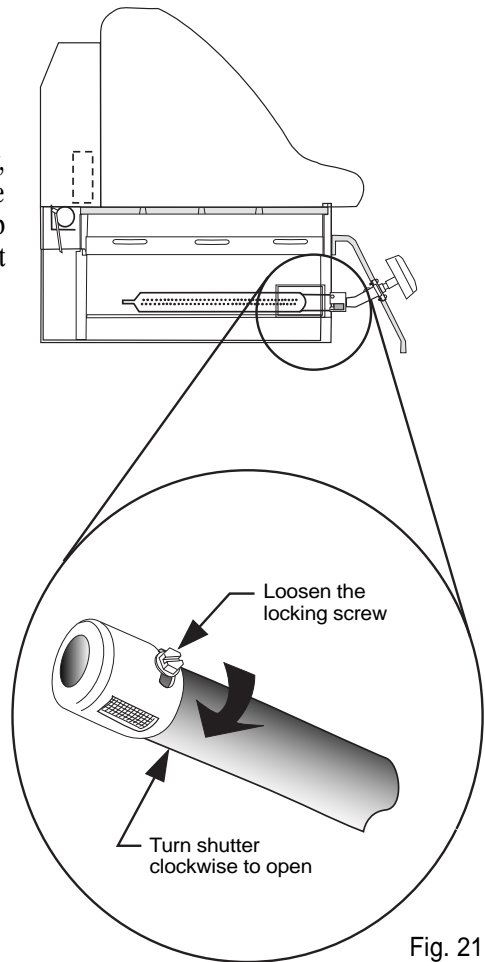

Fig. 21
- The shutters are accessible under the control panel at the front of the Grill (see Fig. 21).